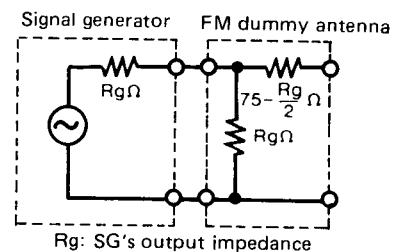

Fig. 14
6. FM dummy antenna shows Fig. 14.